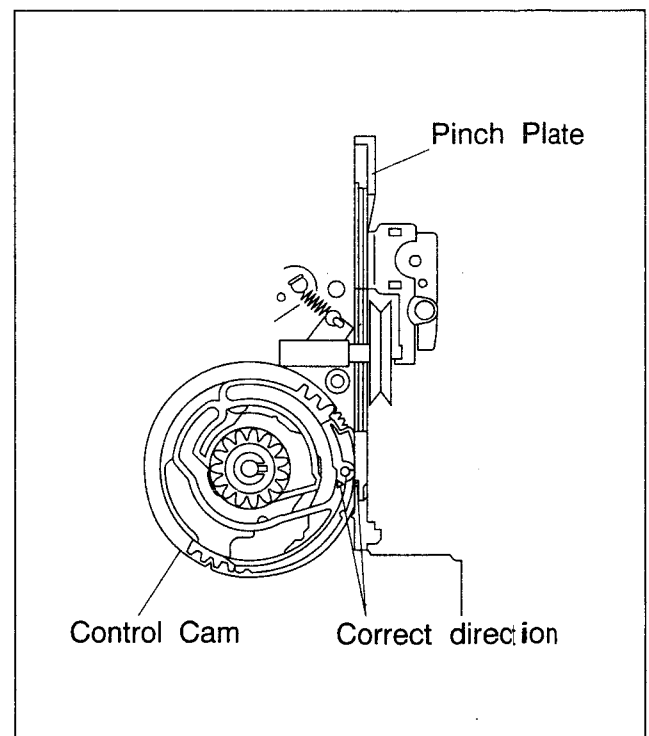

Fig. 2-5-6
- (1) When installing the pinch plate, align rack of the pinch plate and triangle mark of the control cam as indicated in Fig. 2-5-6.